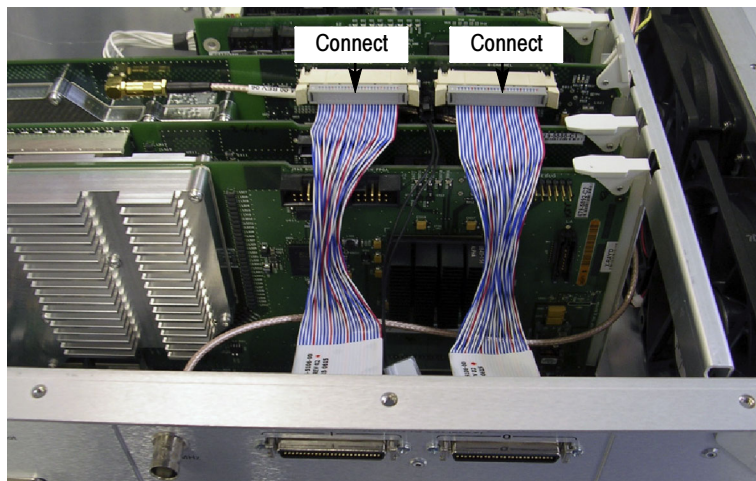

Figure 7: Connecting the IQ Output cables
2. Connect the IQ output cables as shown in Figure 7.